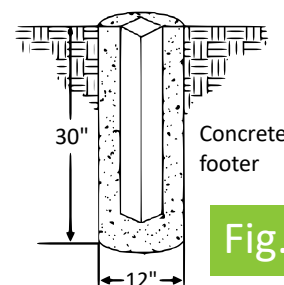

Fig. 1B
1. Dig holes for the posts making sure not to disturb the stakes for the string. The string may be removed and replaced after holes are dug. The holes should be approximately 12" in diameter and 30" deep for 3 and 4-rail fences or 23" for 2-rail fence (depending on local codes). Holes should be dug so they allow equal amounts of concrete on all sides of posts (see Fig. 1B).